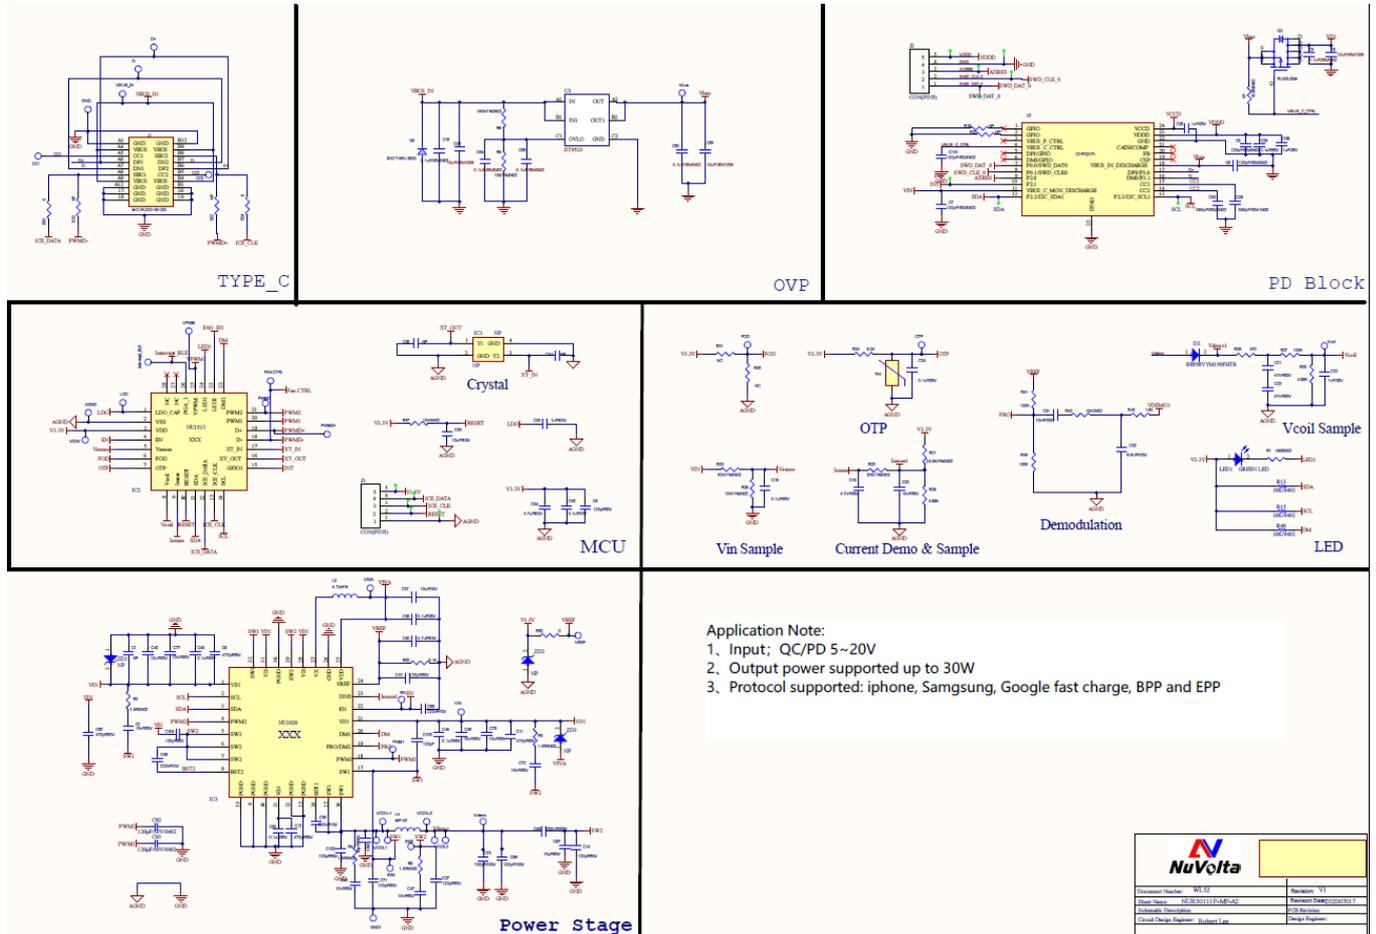

Figure 1: Schematics of NU15XX and NU1009 EVM
- Separate the analog-ground plane from the power-ground plane and use only one point to join them. Please refer to the R34 of Figure 1.